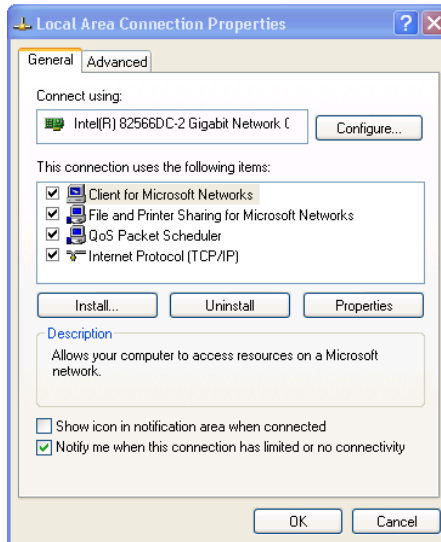

Figure 6: Local Area Connection Properties Window
5. Select **Internet Protocol (TCP/IP)** (see Figure 6).